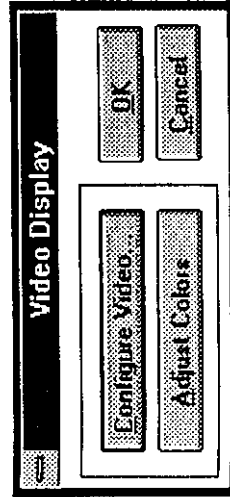

Figure 3-22.
3. To configure video or adjust colors, CLICK on "Video Display" under Options (see Figure 3-22).